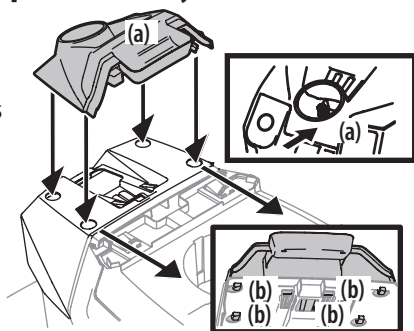

Figure 8
1. To install the dash cap (a), line up the tabs (b) on the dash cap (a) with the holes in the upper dash as shown in Figure 8.
2. Slide the tabs (b) into the holes in the upper dash and push forward on the dash cap (a) to lock into place. See Figure 8.